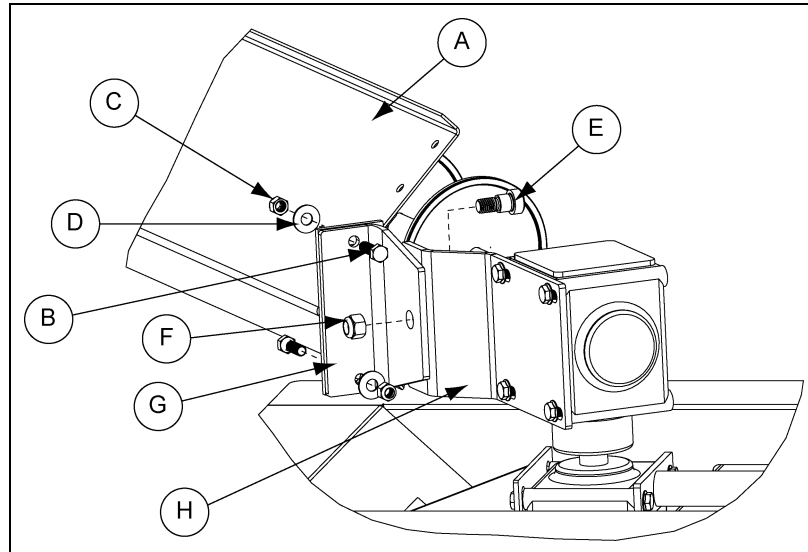

Figure 4AD
2. Fasten the shield bracket to the pivot bracket on the gearbox using one 1/2" x 1/2" shoulder bolt and lock nut. (See Figure 4AD.)